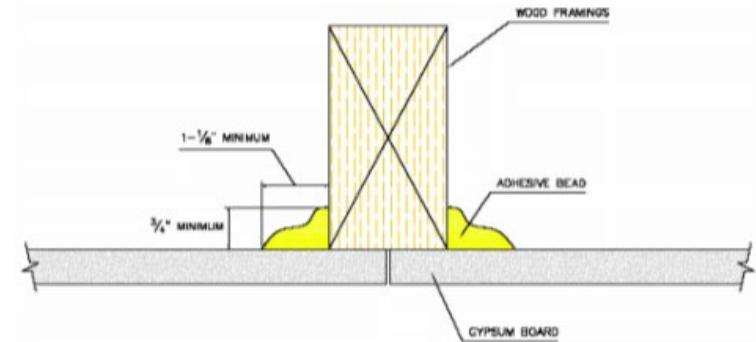

FIGURE 1—APPLICATION OF FOAMNAIL®
FoamNail® adhesive must be used on wood framing with maximum spacing of 16 inches (406 mm) on center for walls and 24 inches (610 mm) on center for ceiling applications. The beads produced must be sized per Figure 1 and a bead must not be greater than 2½ inches (63.5 mm) in size. The adhesive beads are applied along one side of field framing and along both sides at gypsum/sheathing seams.
- 6.1** Report of Figure 1 testing in accordance with ASTM C557 testing.
2. Install SOF Seal Plus around the entire perimeter of the module, up the exterior wall studs, along the center line of the top length of the marriage wall beam, and across the bottom girder. The staple fin can be installed up or down. (Figures 1 and 2)